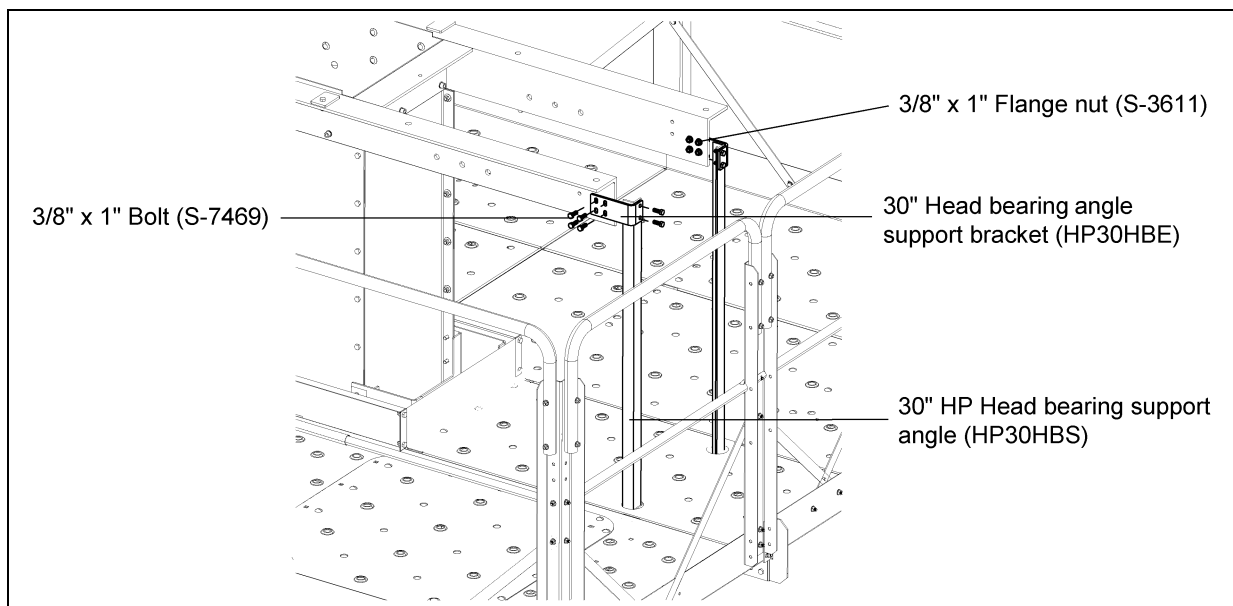

Figure 10A 30" Bearing Support Clips and Angles
1. Connect two (2) HP head bearing support brackets (HP30HBE) as shown to the lower head using 3/8" x 1" bolts (S-7469) and nuts.
2. Attach two (2) head bearing angle supports (HP30HBS) to the head bearing support brackets and cross deck support channels with 3/8" x 1" bolts (S-7469) and nuts. *(See Figure 10A.)*